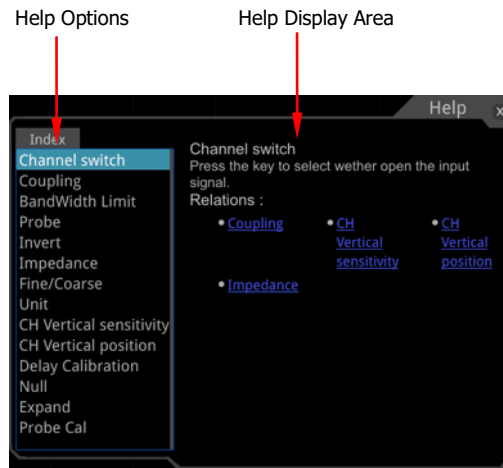

Figure 1-22 Help Information
3. Press **Help** on the front panel or tap the "Help" menu item, and then the help information is displayed on the screen, as shown in Figure 1-22. The help interface mainly consists of two sections. The left section lists "Help Options", and the right section is the "Help Display Area".